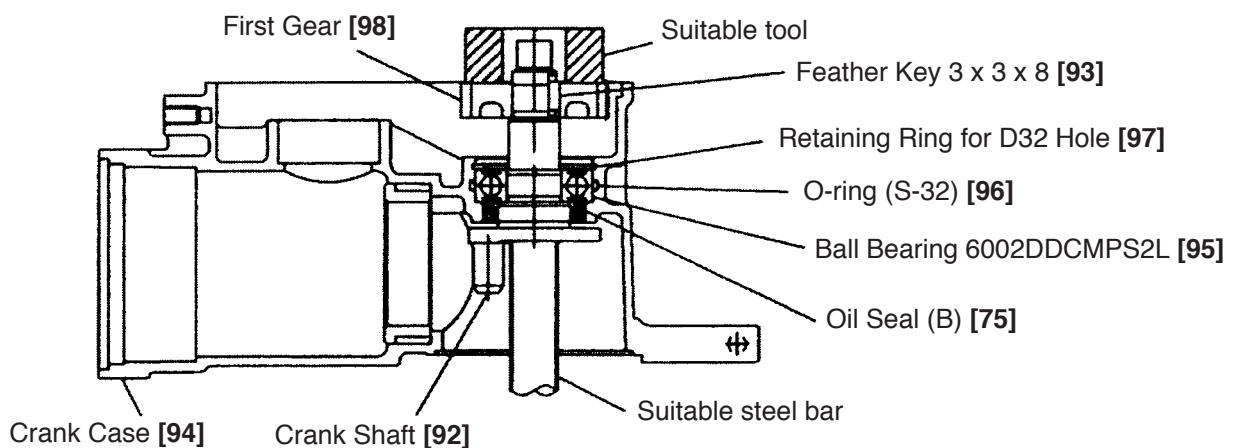

Fig. 21
Press-fit Oil Seal (B) [75] in the Crank Case [94] then the O-ring (S-32) [96] is fitted in the groove inside the Crank Case [94]. Press-fit the Ball Bearing 6002DDCMPS2L [95] in the Crank Case [94] then the Retaining Ring for D32 Hole [97] is fitted in the groove inside the Crank Case [94]. Press-fit the Crank Shaft [92] in the Ball Bearing 6002DDCMPS2L [95]. Put the Feather Key 3 x 3 x 8 [93] into the groove of the Crank Shaft [92] and press-fit the First Gear [98] with a suitable tool while holding the flat portion of the Crank Shaft [92] with a steel bar. Before press-fitting, make sure that the Feather Key 3 x 3 x 8 [93] fits in the key groove of the First Gear [93]. (Fig. 21)